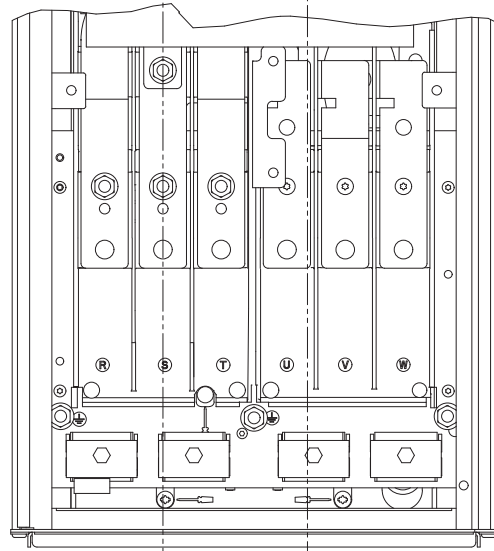

Fig. 11 Earth, mains and motor connection
1. Connect the earth conductor to terminal 99 (PE). See fig. 11.
2. Connect the motor conductors to terminals 96 (U), 97 (V), 98 (W).
1. Connect the earth conductor to terminal 95 (PE). See fig. 11.
Take the following terminal positions into consideration when you design the cable connection. See fig. 11.